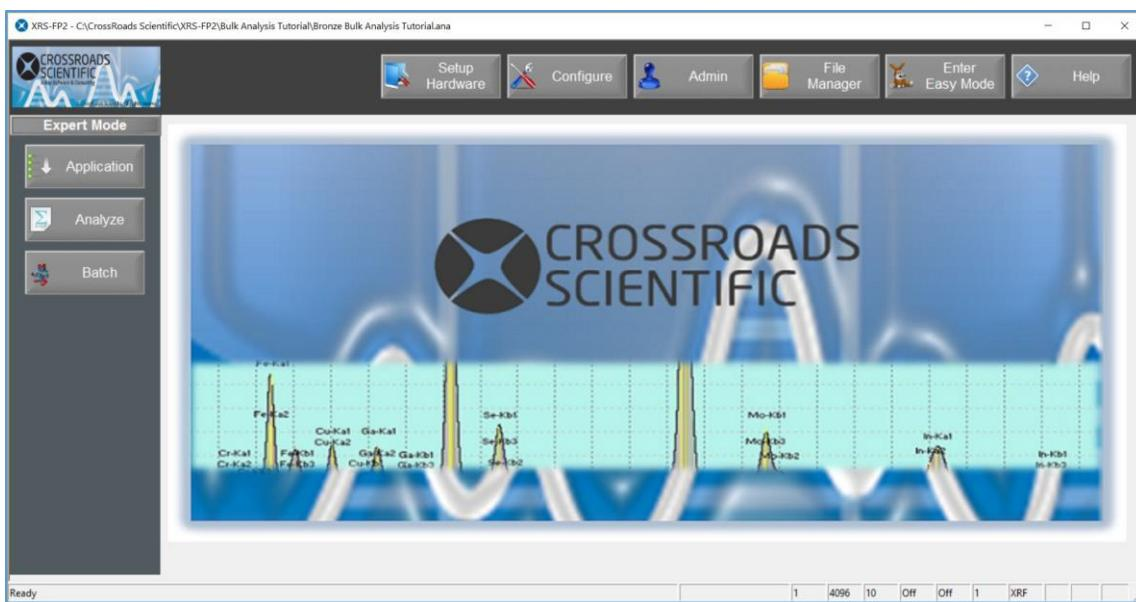

Figure 1. XRS-FP2. XRS-FP2 home page.
1. **Launch XRS-FP2** – either run the software from the Windows Start-Programs menu, or double-click on a shortcut (if one has been created on the desktop). First, a splash screen will load and then XRS-FP2 will be displayed. See figure 1 below. The splash screen will briefly show the values and options for the HASP security plug, and the software libraries that have been loaded. This can also be displayed by selecting the **Help** button (located in the top ribbon).